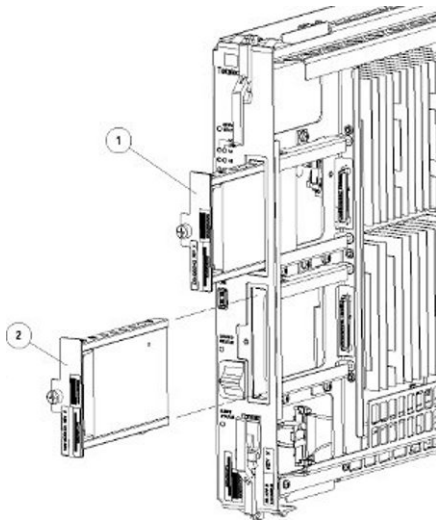

Figure 50: Drive Module Removal
5. Grasp the screw (E) and pull the drive out slowly until it is free from the card (see Figure 50: Drive Module Removal).